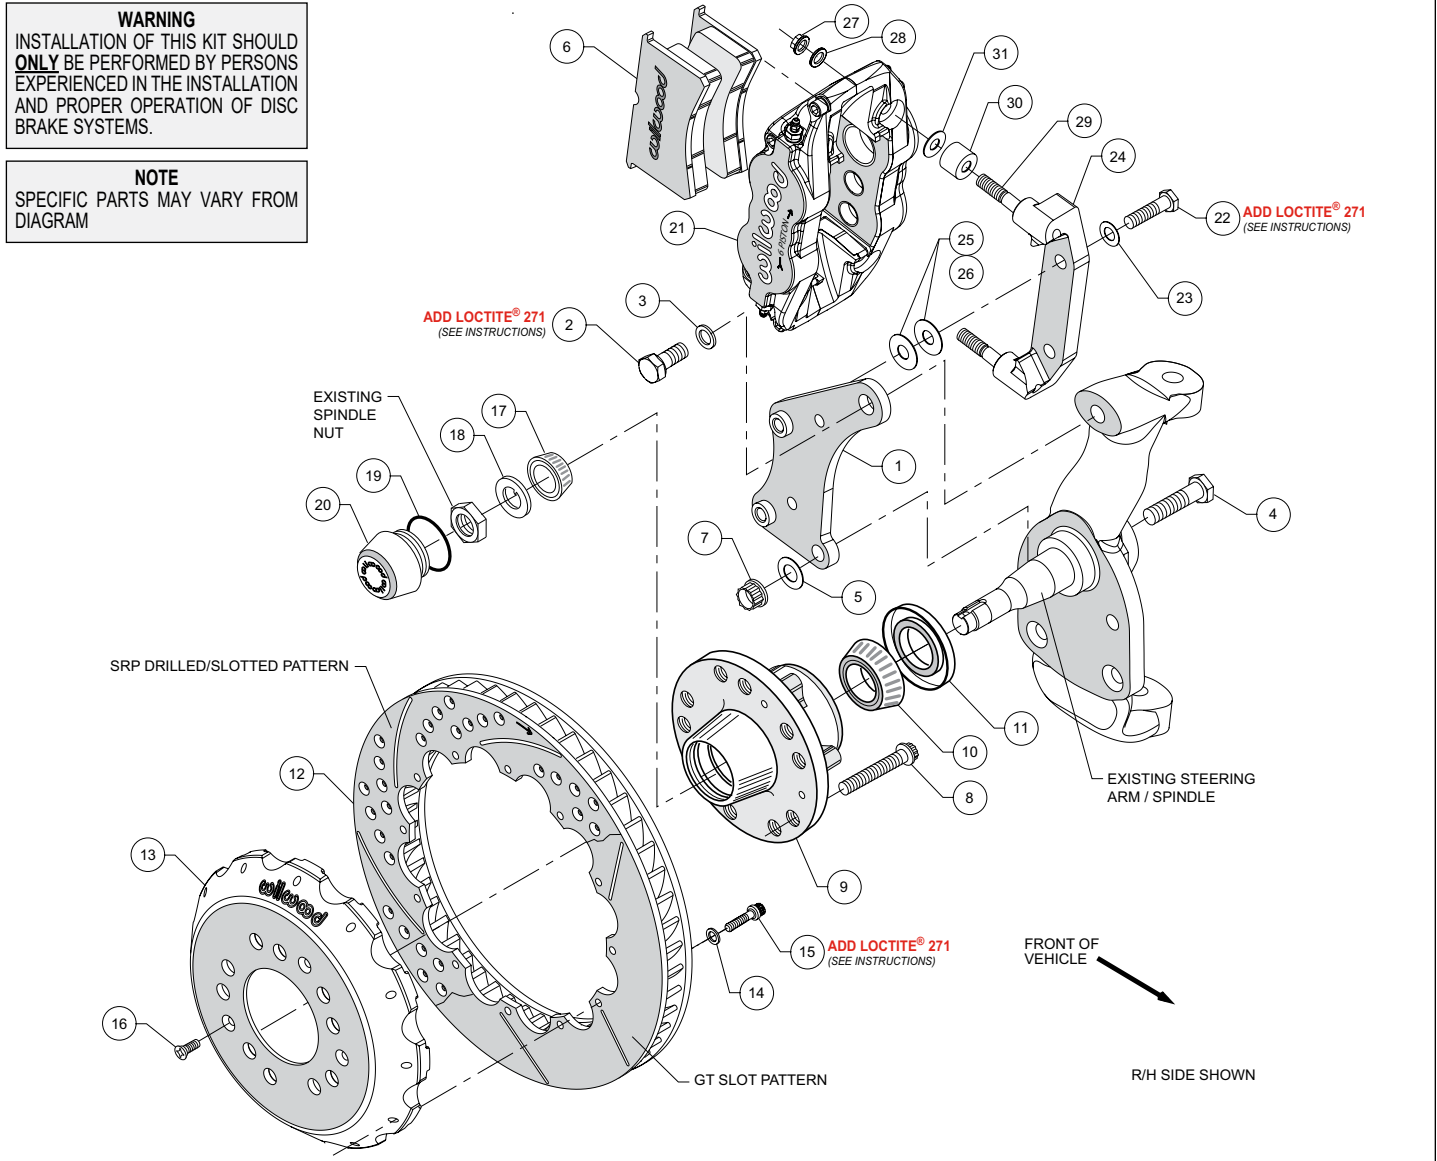

Figure 1. Typical Installation Configuration
•Mount the radial mount caliper bracket (24) to the first “flat” caliper mounting bracket (1) from the far side by sliding bolt (22) through washer (23). Place two .030 thick flat washers (26) between the two brackets (1 and 24) before sliding the mounting bolts (22) all the way into the first caliper mounting bracket (1). Finger tight only.
•**NOTE:** This kit contains distinct right and left hand calipers that must be mounted in a specific direction, as described below. Install spacer (30) and one shim (31) over each stud (29) on the radial mount bracket (24). Slide the caliper (21) in place over the studs and rotors and install the washer (28) and lock nut (27) to hold the caliper in place, Figure 1. Ensure that the caliper is mounted so that the largest pistons are at the rotor exit end of the caliper, in relation to the direction of rotor rotation. Snug the lock nuts (27) and check that the rotor (12) is centered in the caliper (21). Add or subtract .030” shims (26), or add additional .015” shims (25), as necessary between the radial mount bracket (24) and the flat bracket (1) to center the caliper. Finger tighten and recheck alignment. Use as many shim washers (combination of 25 and 26) as necessary to achieve the correct alignment. Apply red *Loctite*® 271 to bolt threads (22) and torque to 60 ft-lb.